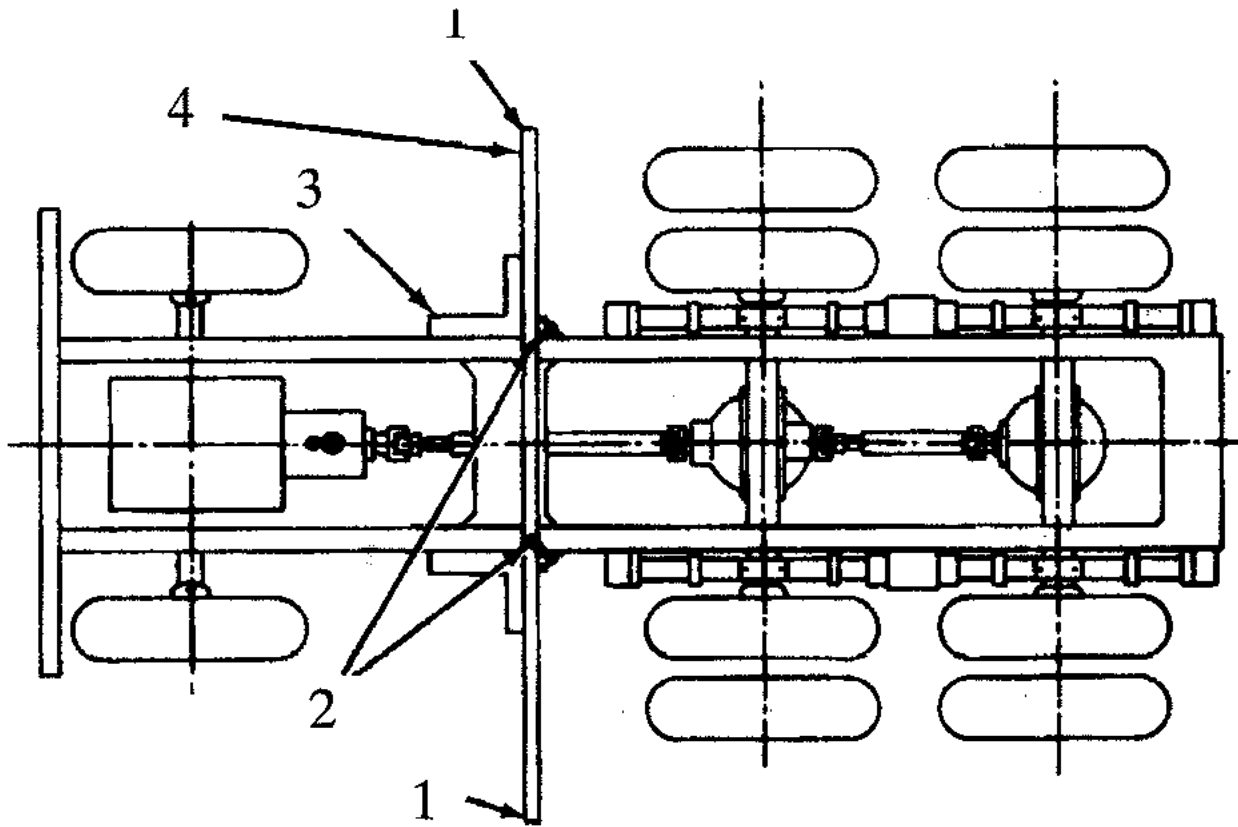

Figure 10 Plumb Bob Location
2. Suspend a plumb bob from the straightedge in front of the tire and on outboard side of the forward rear axle on 6x4 vehicles or rear axle on 4x2 vehicles (Figure 10).